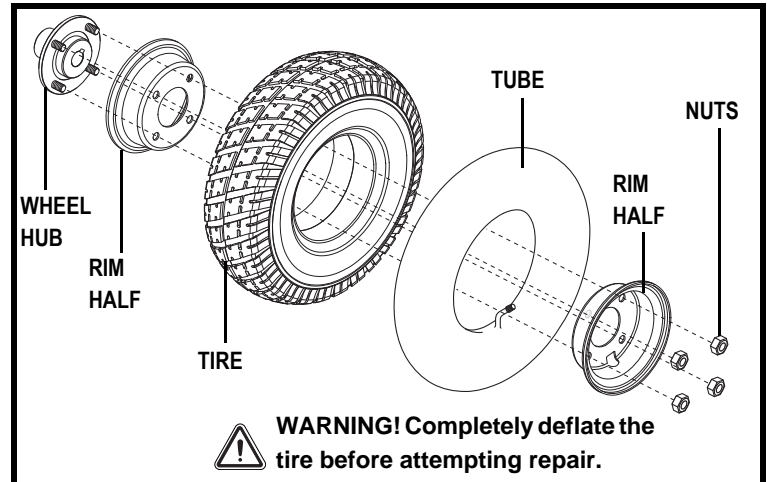

Figure 20. Jazzy Select Series Drive Wheel Disassembled
12. Reinstall the drive wheel nut and washer onto the axle and tighten. See figure 20.